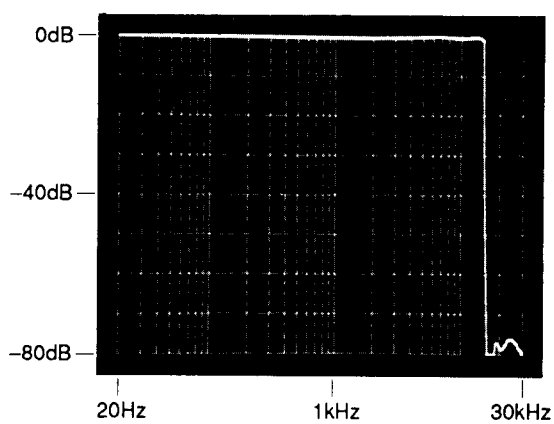

Fig. 1-3: Level vs. Frequency
1-5	Fig. 1-3: Level vs. Frequency
- Sharp filtering protects pilot and prevents crosstalk between the main channel and subchannel (see Fig. 1-3).